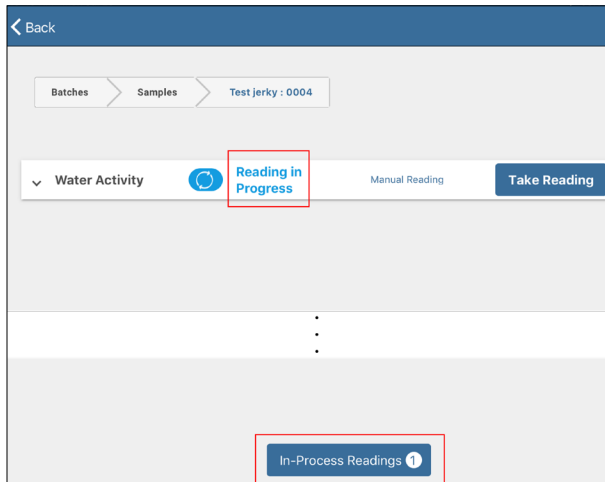

Figure 57 Reading in progress indicator
11. Select the **In-Progress Readings** button at the bottom of the Readings screen to see the In-Progress Readings dialog window with the reading status (Figure 57).